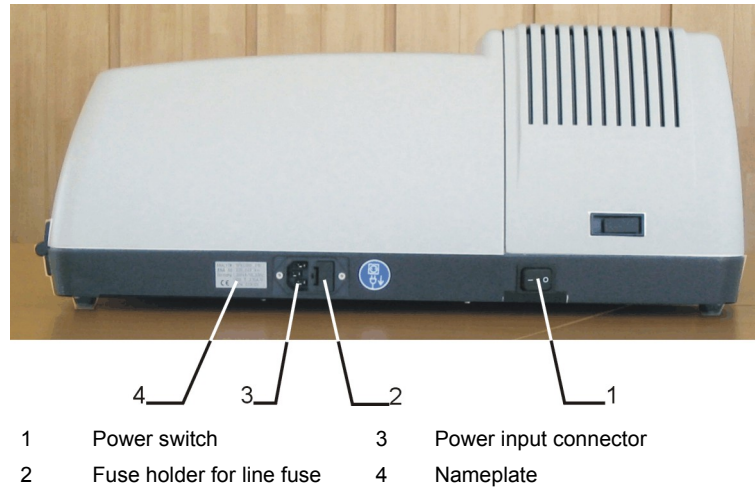

Fig. 6-3 Connectors on left-hand side panel
2. Using the power switch on the left panel of the device, switch the SPECORD® on (→ Refer to Fig. 6-3 Connectors on left-hand side panel, p. 22).